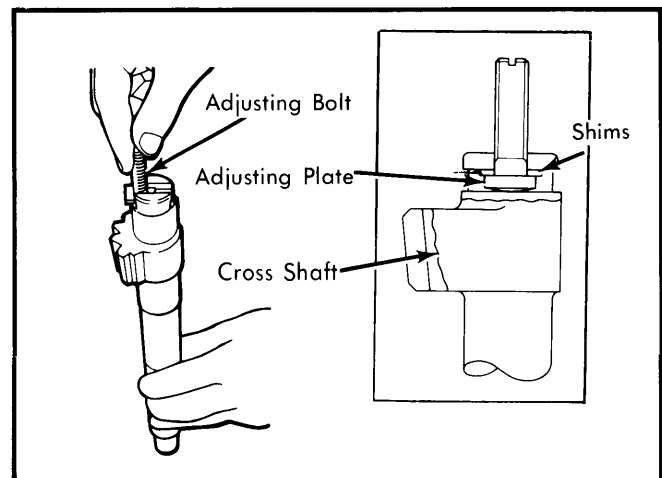

Fig. 5 Adjusting the Cross Shaft "T" Slot.
2) When installing adjusting shims, place chamfered edge of adjusting plate to contact surface of cross shaft. See Fig. 5. Align cross shaft with side cover and tighten with adjusting bolt. Tighten lock nut temporarily. Apply grease to oil seal lip and press in oil seal and ball bearing to top cover.